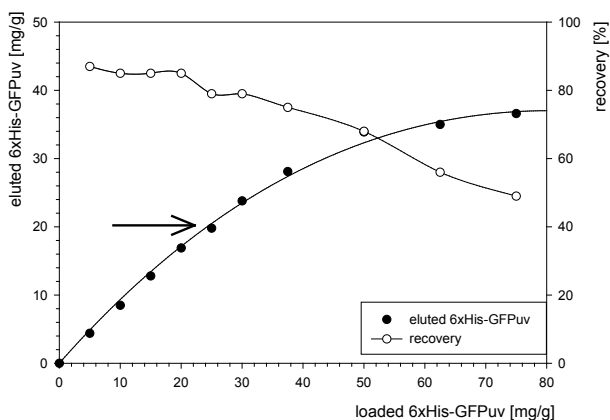
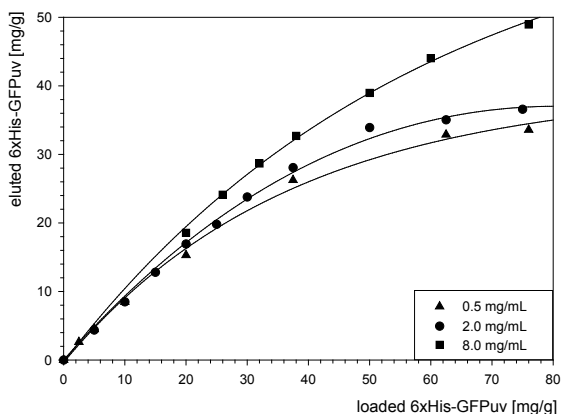

Figure 2: Binding behaviour of 6xHis-GFPuv to Protino® Ni-IDA Resin
Figure 3: Binding behaviour of 6xHis-GFPuv to Protino® Ni-IDA at different concentrations of the polyhistidine-tagged protein in the sample
The binding behaviour of any polyhistidine-tagged protein to Protino® Ni-IDA can be examined by calculating the amount of protein that is eluted as a function of the amount of protein that has been loaded (see Figure 2). Please note that the resulting graph will vary in dependence on characteristics and concentration of the individual His-tag protein. The binding curve can be divided in three stages:
1. Stage of maximum recovery. At this stage the loaded protein is bound to the resin nearly quantitatively and can be eluted nearly quantitatively, too (the binding curve is almost linear, see Figure 2, • eluted His-GFPuv).
Figure 2 shows a plot of the amount of eluted 6xHis-GFPuv against the amount of loaded 6xHis-GFPuv. The binding curve can be divided in three stages:
Under the above mentioned conditions the binding capacity of Protino® Ni-IDA for 6xHis-GFPuv is approximately 20 mg protein per g of resin (see arrow, Figure 2). At this point the protein recovery is > 80%. Consequently the following amounts of 6xHis-GFPuv have to be loaded: For optimal recovery: load ~ 20 mg protein per 1 g of Protino® Ni-IDA Resin, for maximum yield: load ~ 75 mg protein per 1 g of Protino® Ni-IDA Resin.
Recovery rates and yield can be increased by using samples containing higher concentrated polyhistidine-tagged protein (6xHis-GFPuv). Figure 3 shows that the yield of purified polyhistidine-tagged protein is not only depending on the total amount of target protein loaded on the column (also see Figure 2) but also on its concentration in the lysate. Consequently the concentration of target protein in the sample should be as high as possible.